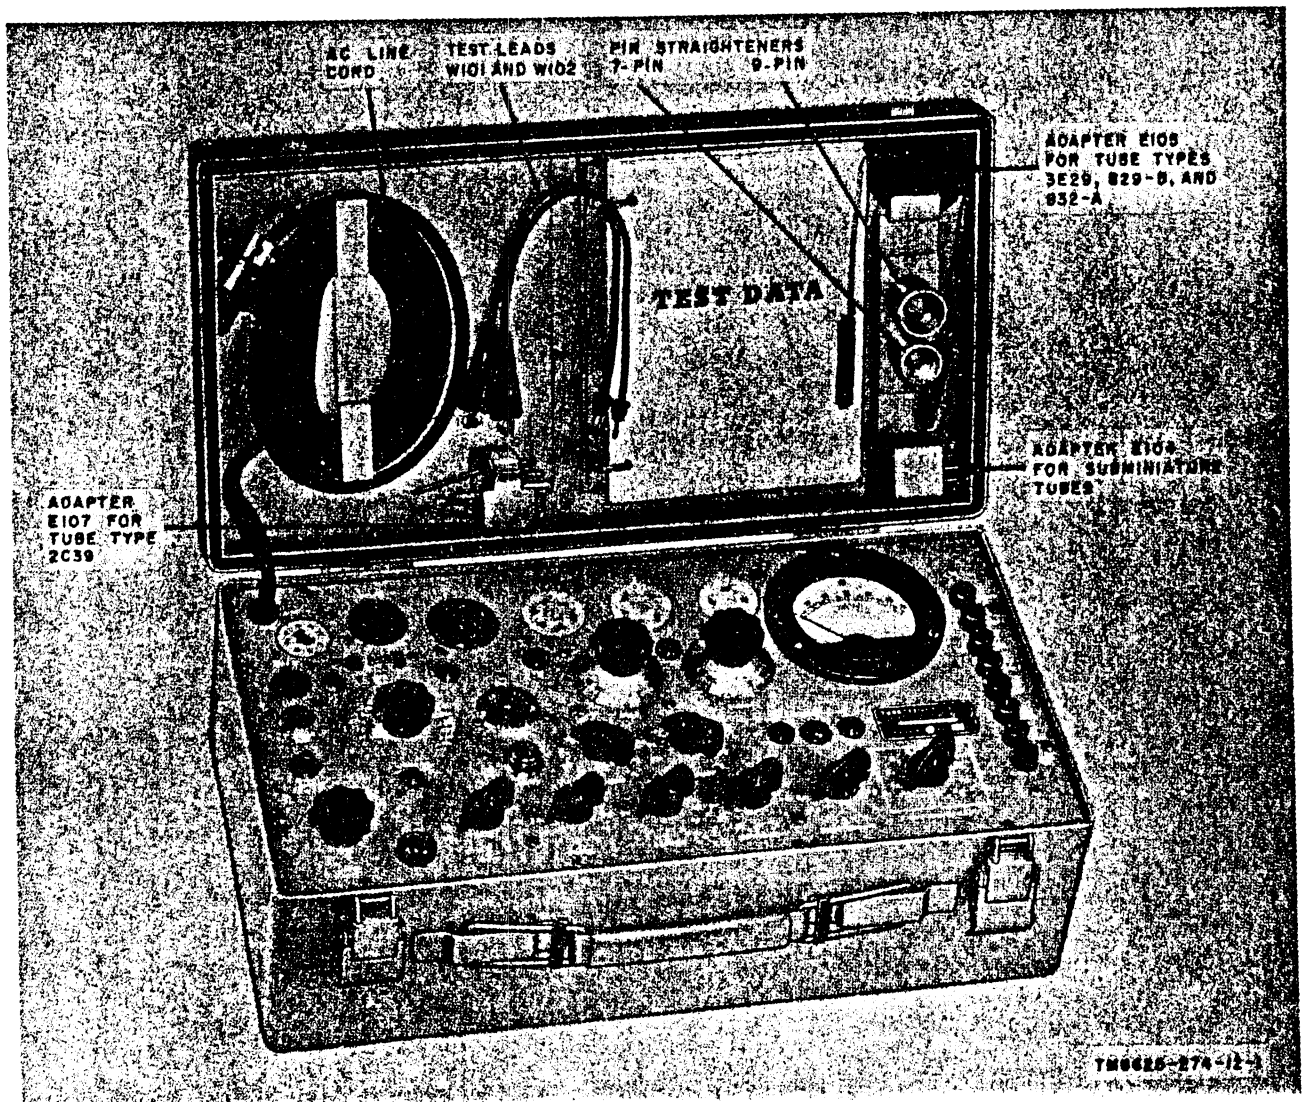
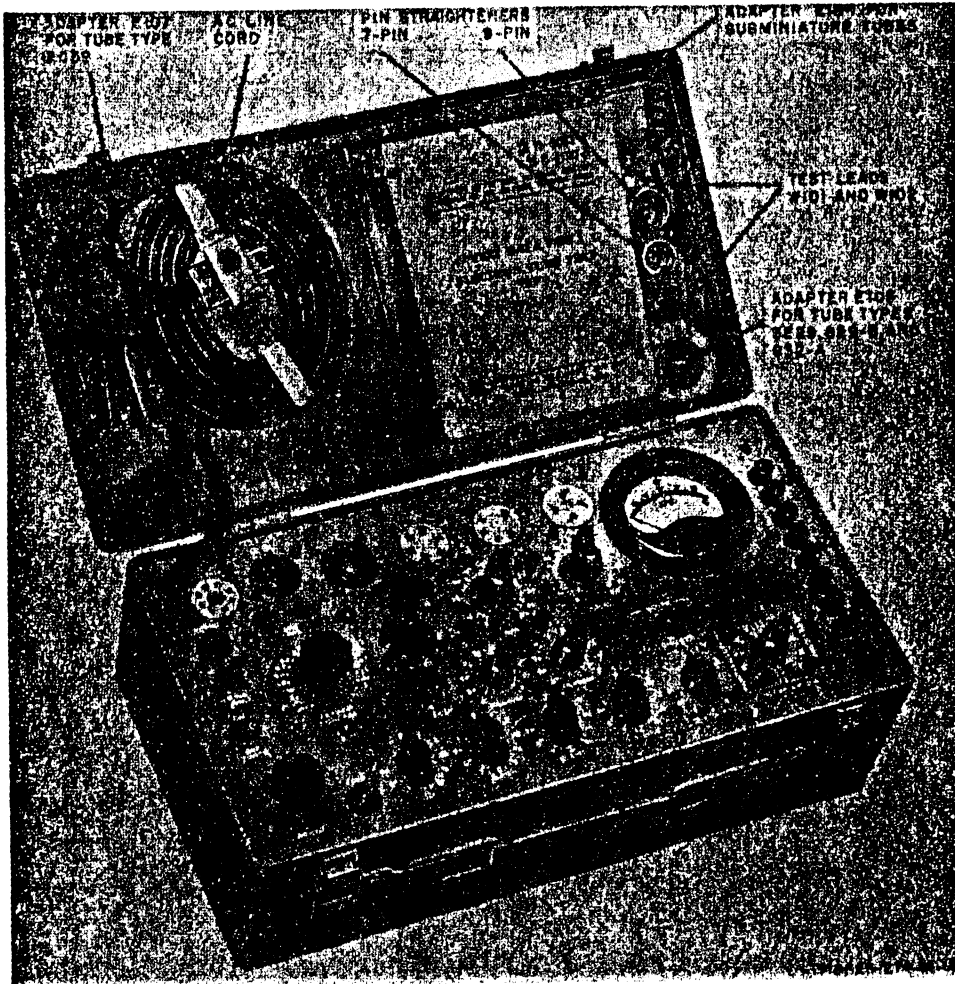
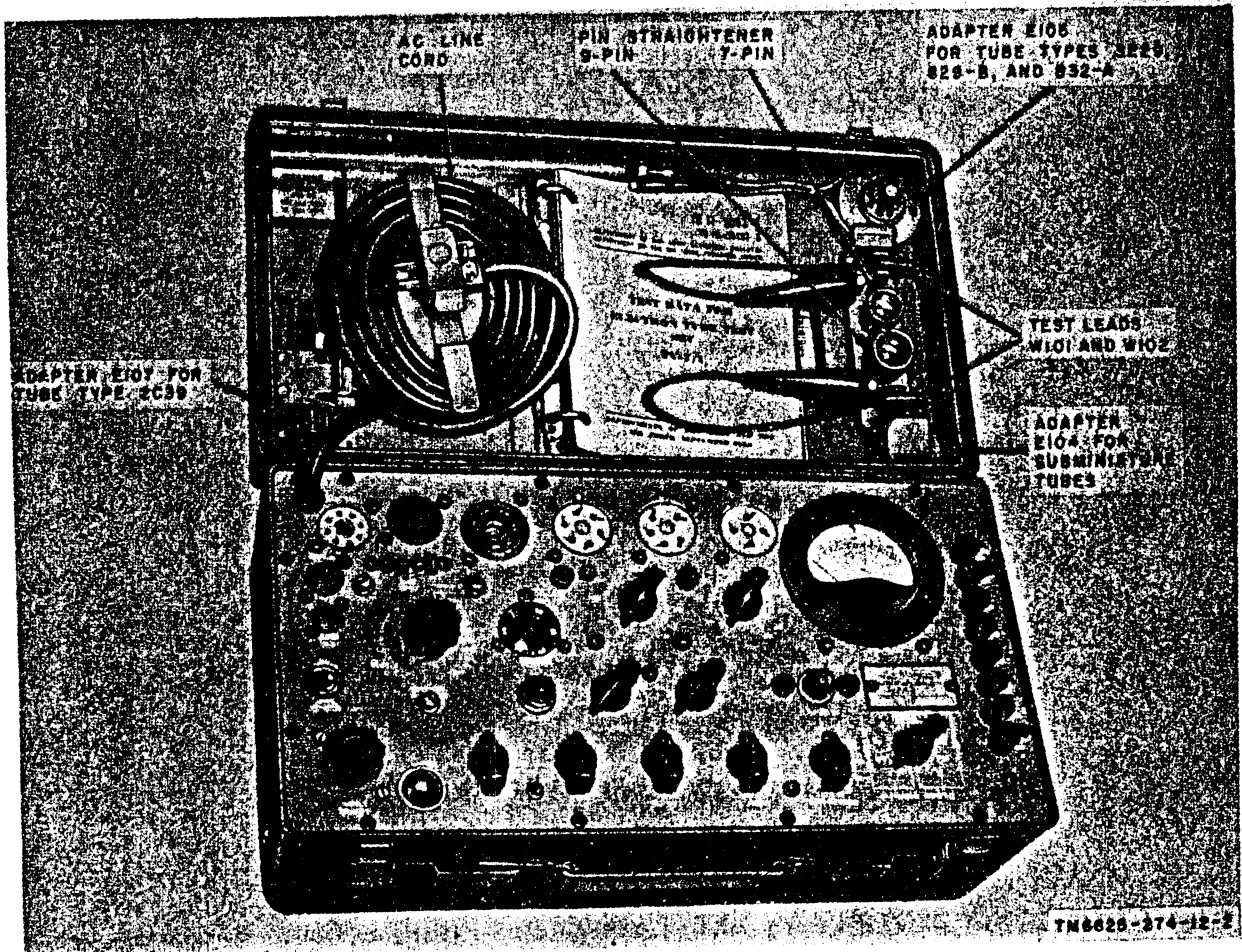
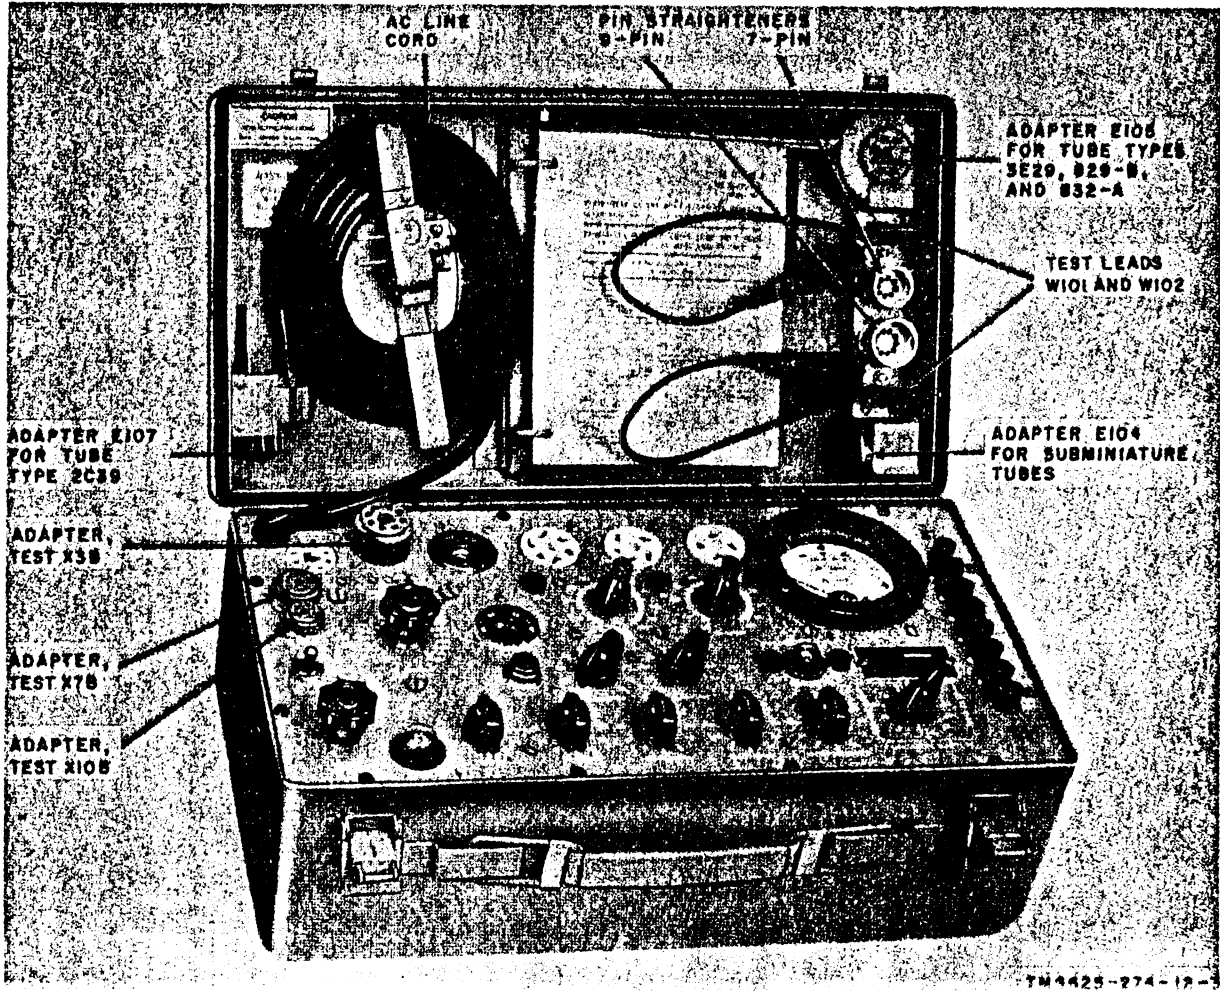

Figure 1. Test Set, Electron Tube TV-7/U, less running spares.
Figure 2. Test Set, Electron Tube TV-7A/U, less running spares.
Figure 3. Test Set, Electron Tube TV-7B/U, less running spares.
Figure 4. Test Set, Electron Tube TV-7D/U, less running spares.
a. This manual describes Test Sets, Electron Tube TV-7/U (fig. 1), TV-7A/U (fig. 2), TV-7B/U (fig. 3), and TV-7D/U (fig. 4), and covers installation, operation, and first and second echelon maintenance. It includes in-